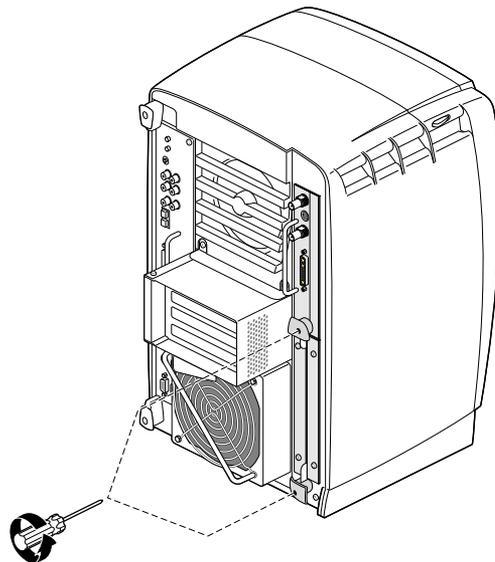

Figure 1-6 Loosening the XIO Tri-Module Screws
1. Loosen the two captive screws in the XIO Tri-Module handles with the supplied Phillips screwdriver until the screws are disconnected from the chassis (see Figure 1-6).